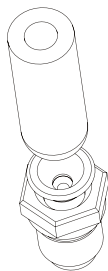

Figure 3: Air Gun Nozzle for Filling Air in the Air Valve. Keep it pressed for Air inflation.
4. To Grip the Core inflate the shaft: Press the Air Valve (NRV) by Air gun nozzle, shown in Figure 3. Press the Air Gun lever to the extent that the 5 - 6 Bar (70-90 psi) Air Pressure is developed in the bladder. For 3" Air Shaft, apply the air pressure for 45 seconds. For 6" Air Shaft, apply the air pressure for 80-100 seconds. Simpler solution is to count 1 to 50 for 3" shaft and 1 to 100 for 6" shaft, while filling air in the shaft. If you apply air for longer time, rubber bladder will not burst. In fact, it will give you better gripping.